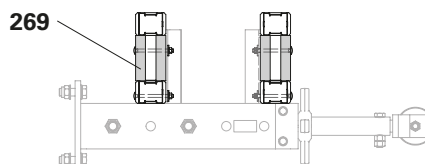

Fig. B9.04
- Line the Formwork Girder GT 24 with a shim (269) on both sides. (Fig. B9.04)